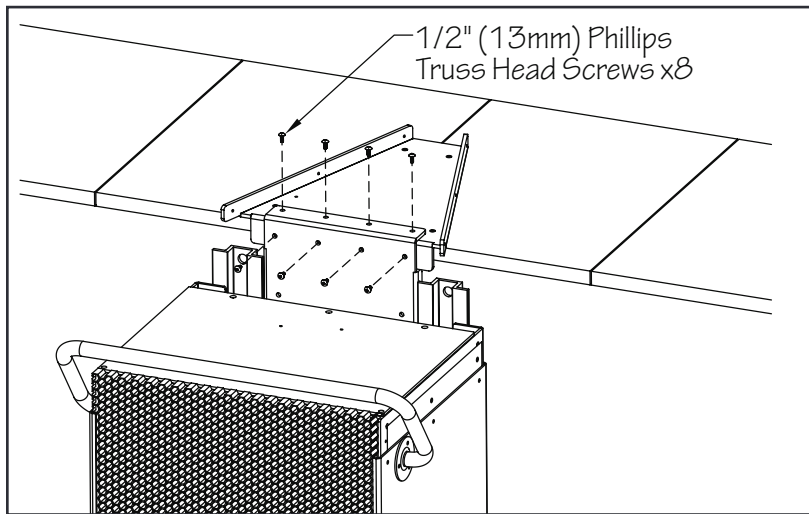

Fig. 9.3
9.3 With a minimum of two people, carefully lower the Fastlane Pro into the pool. Align the holes in the hanger bracket with the holes in the deck plate bottom. Use the provided 1/2" (13mm) screws to attach the Fastlane Pro to the pool wall (Fig. 9.3).